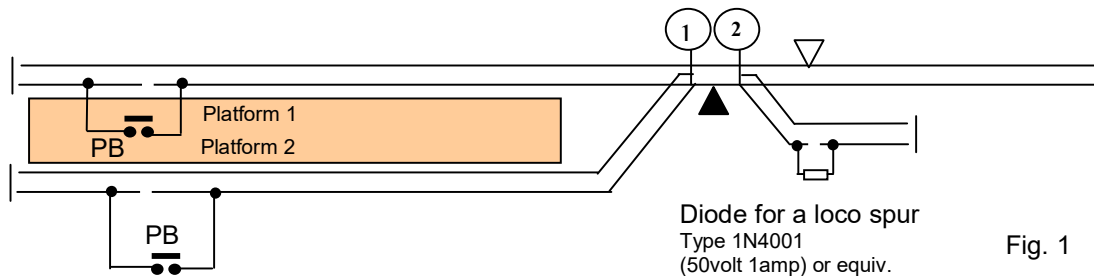

Fig. 1
In my opinion, this technique is only suitable for use at goods yard headshunt bufferstops and for a spur for one loco as shown in fig.1 below.
Larger stations will very likely have more than one loco present and a very different pattern of loco movements. Fig. 1 shows an island platform with a terminating track each side, and a short loco spur. I have not shown any sidings, loco shed etc because these items are irrelevant to the topic under discussion. Each short length of track next to the platform bufferstops is fed via a pushbutton (PB) when retrieval of the loco is required.